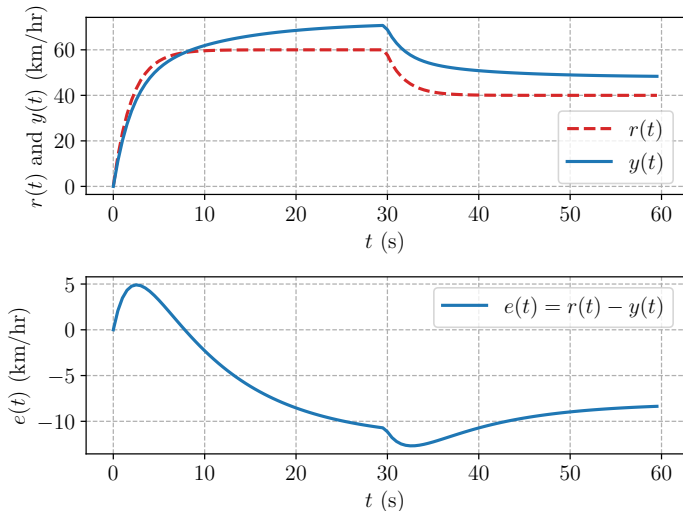

Figure 3: Velocity profile using feedforward control (with model uncertainty).
- ▶ Comparing Figures 3 and 5,